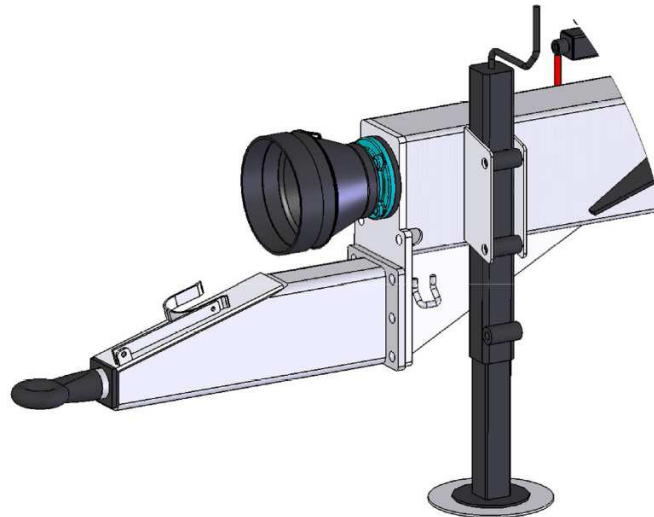

Fig. 2. N267 and N267/1 spreader support
Before disconnecting/decoupling the spreader from the tractor, first engage the machine parking brake and lower the support – see fig. 2 item 1.